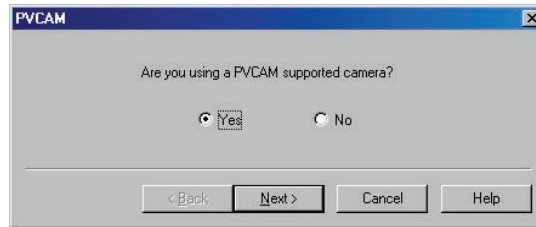

Figure 60. Hardware Wizard: PVCAM dialog box
6. When the PVCAM dialog box (Figure 60) is displayed, click in the **Yes** radio button, click on **Next** and continue through the Wizard. After the Wizard is finished, the **Controller/Camera** tab page will be displayed with the **Use**